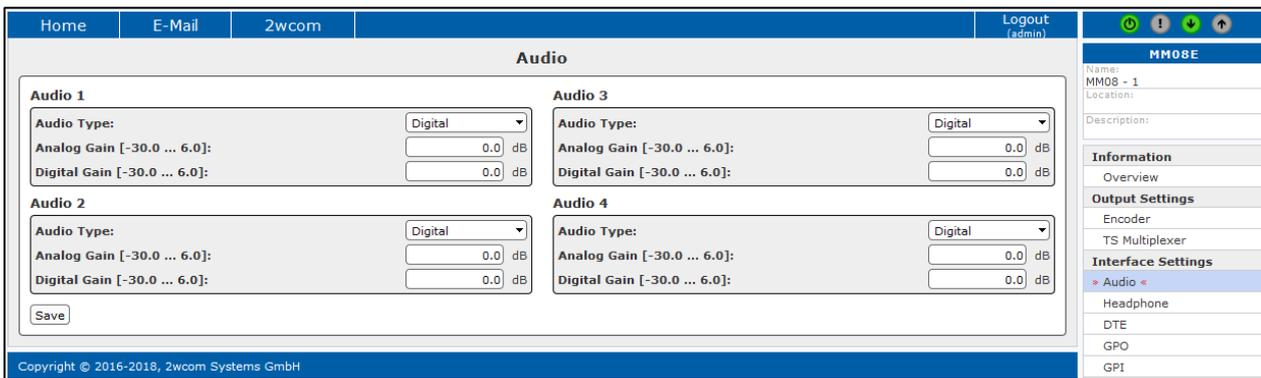

Figure 17: Audio input settings
- Select **Interface Settings→Audio** (s. Figure 17):